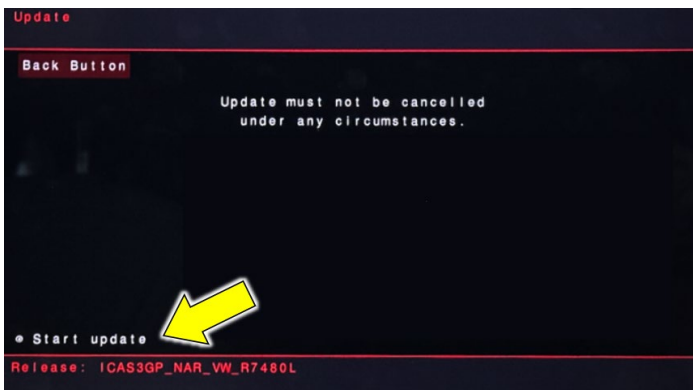

Figure 9: Start update
- Press “Start update” (see figure 9).